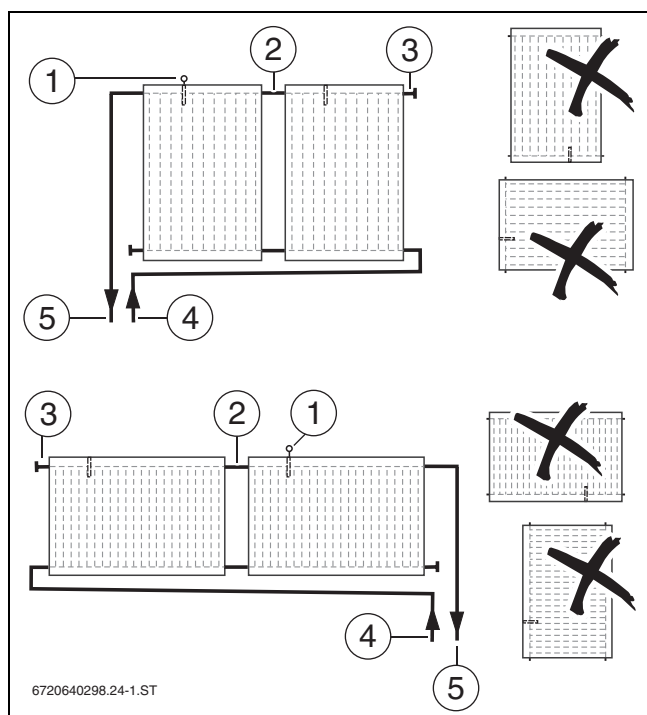

Fig. 14 Layout of portrait (top) and landscape (bottom) collectors
- ▶ Connect the collector array alternately (→ Fig. 14).
- ▶ When installing collectors, ensure that the sensor pocket for the collector sensor is located at the top (→ Fig. 14 [1]).
- ▶ Plan the routing of the collector sensor lead so that the collector sensor (→ Fig. 14 [1]) can be fitted to the collector to which the flow [5] has been attached.